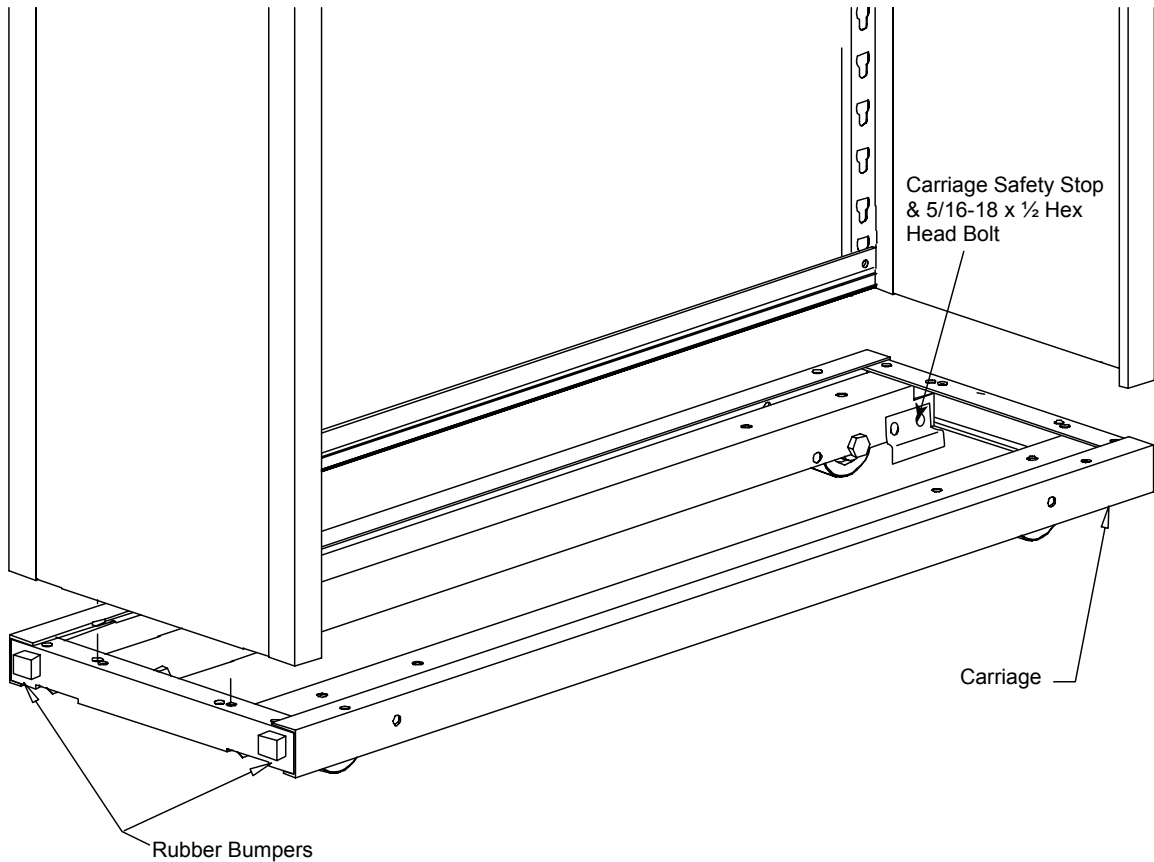

FIGURE 7
- STEP 1** Install Carriage(s) onto Deck assembly. Install the Carriage Safety Stops to the outside of the wheel's main beam(s). **See Figure 7.** Attach the Carriage Safety Stops with two (2) 5/16–18 x 1/2 hex head bolts.
- STEP 2** Peel protective backing on adhesive on two (2) Rubber Bumper squares. Adhere to both sides of Carriage at the bottom. **See Figure 7.**